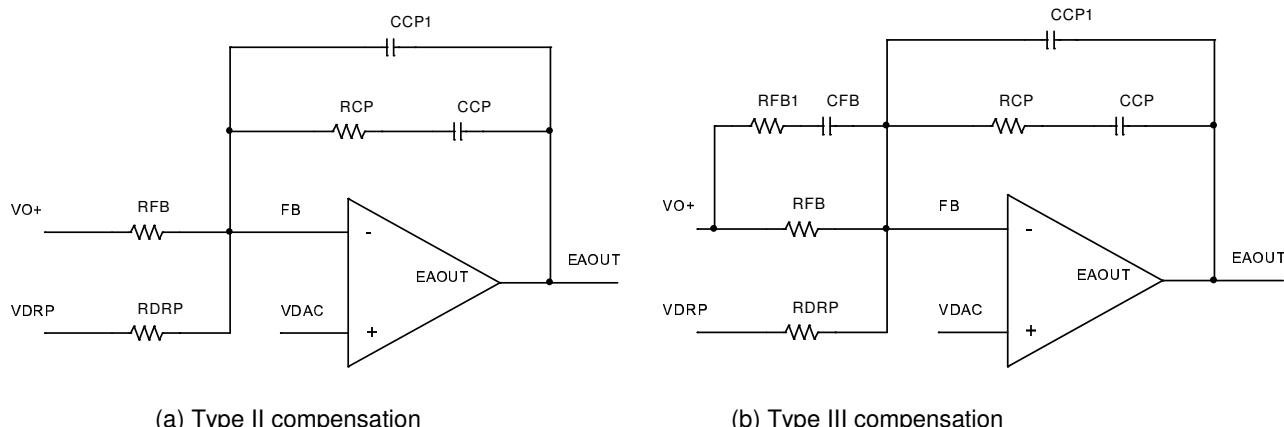

Figure 18. Voltage loop compensation network
Resistors RFB and RDRP are chosen according to Equations (15) and (16), and the selection of compensation types depends on the capacitors used. For the applications using Electrolytic, Polymer or AL-Polymer capacitors, type II compensation shown in Figure 18 (a) is usually enough. While for the applications with only ceramic capacitors, type III compensation shown in Figure 18 (b) is preferred.
All ceramic output capacitors are used in the design, type III compensation as shown in Figure 18(b) is used here. Choose the desired crossover frequency $f_C = 80$ kHz and determine R_{CP} and C_{CP} :